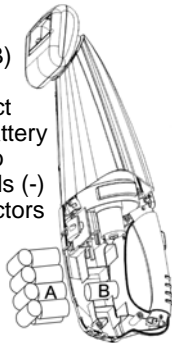

Fig. 8
- Carefully lift out the top battery pack (A) and disconnect the terminals. Then remove the single battery (B) that is on the bottom and disconnect the terminal. (Fig. 8)
- Connect the terminals to the single battery (B) first and insert into the new unit. Then connect the terminals to the battery pack (A) taking care to connect the black leads (-) to the negative connectors first and the red leads (+) to the positive connectors second. Place the new battery (A) into the battery compartment.